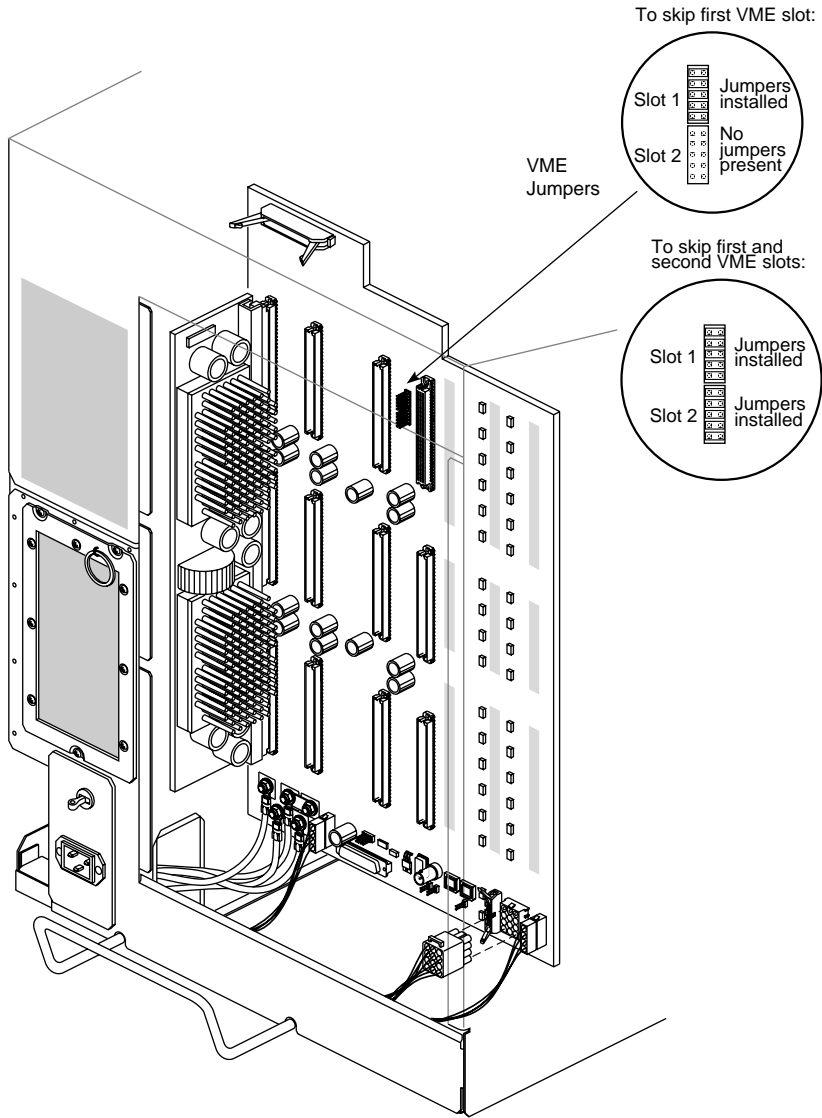

Figure E-7 VMEbus Midplane Jumpers
- If you are skipping the first VME slot (slot 7 in a Challenge deskside) to use the second, you must place five jumpers in the jumper bank, designated as slot 1 (see Figure E-7).